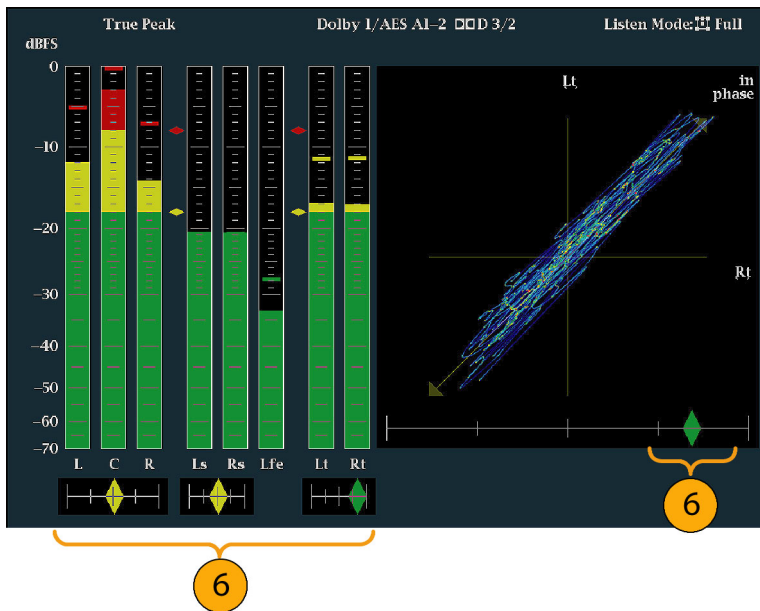

Figure 52: Checking for phase correlation
6. Check for Phase correlation of the signals, noting the following: (See Figure 52.)